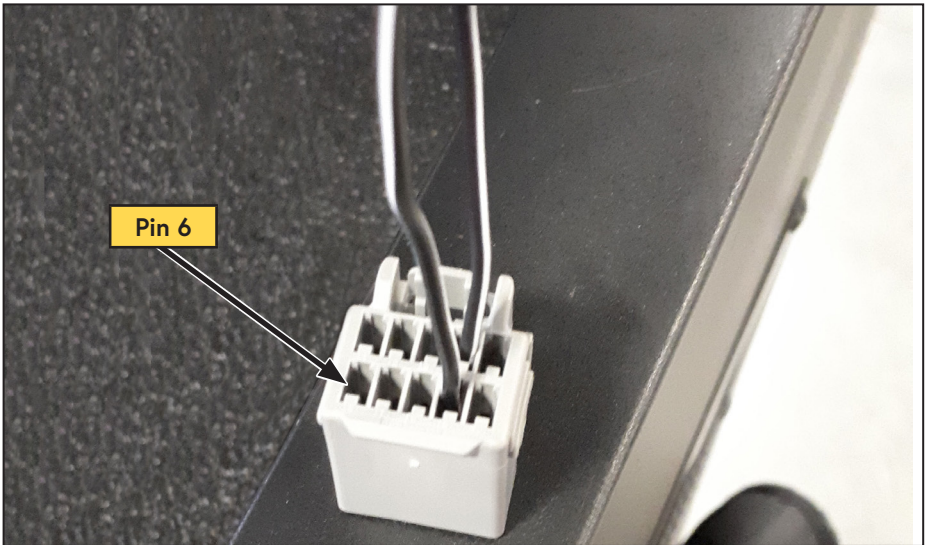

Figure 59 — Connect key switched power
- Connect the orange wire, running from the control module, into pin 6 (key switched power) of the 10 pin connector. \*If pin 6 is already populated, splice the orange wire into the existing wire populating pin 6 (Figure 59).